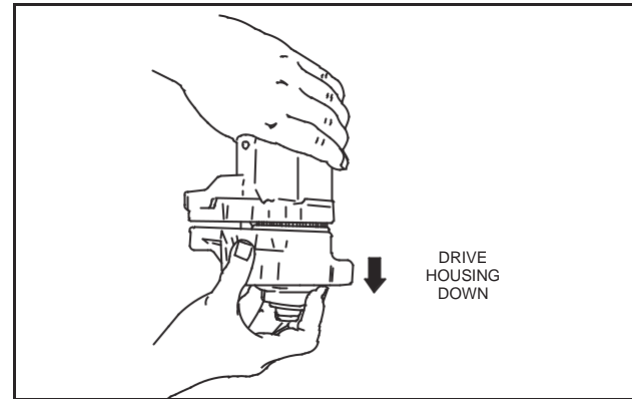

Fig. 60 – Installing Solenoid
2. Align pilot hole in solenoid with drive gear shaft and assemble solenoid to drive housing, Fig. 60.